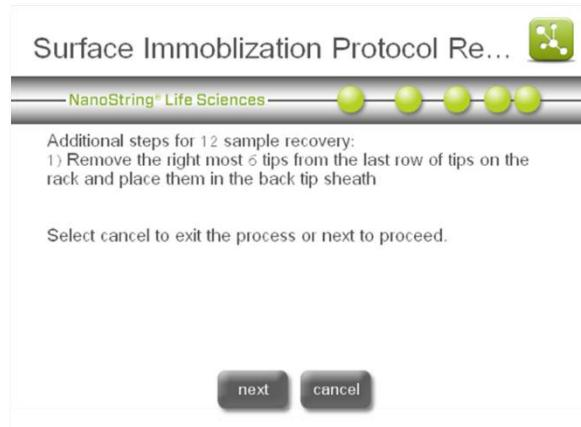

Figure 137: Additional instructions for the ‘Surface Immobilization Protocol Recovery’ workflow.
3. Additional instructions will appear. These instructions apply only to recovery of 12 samples (**Figure 137**). Press **next**.